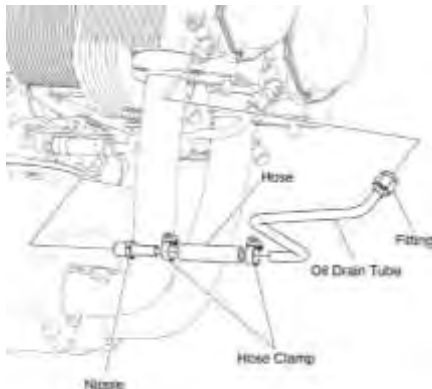

Figure 45
- (1) If a new nipple (Figure 45) is to be installed on the crankcase, apply Loctite® 564 to the threads of the nipple. Torque the nipple to 85 in.-lb. (9.6 Nm).
- (2) Connect a new hose to the nipple in the crankcase.